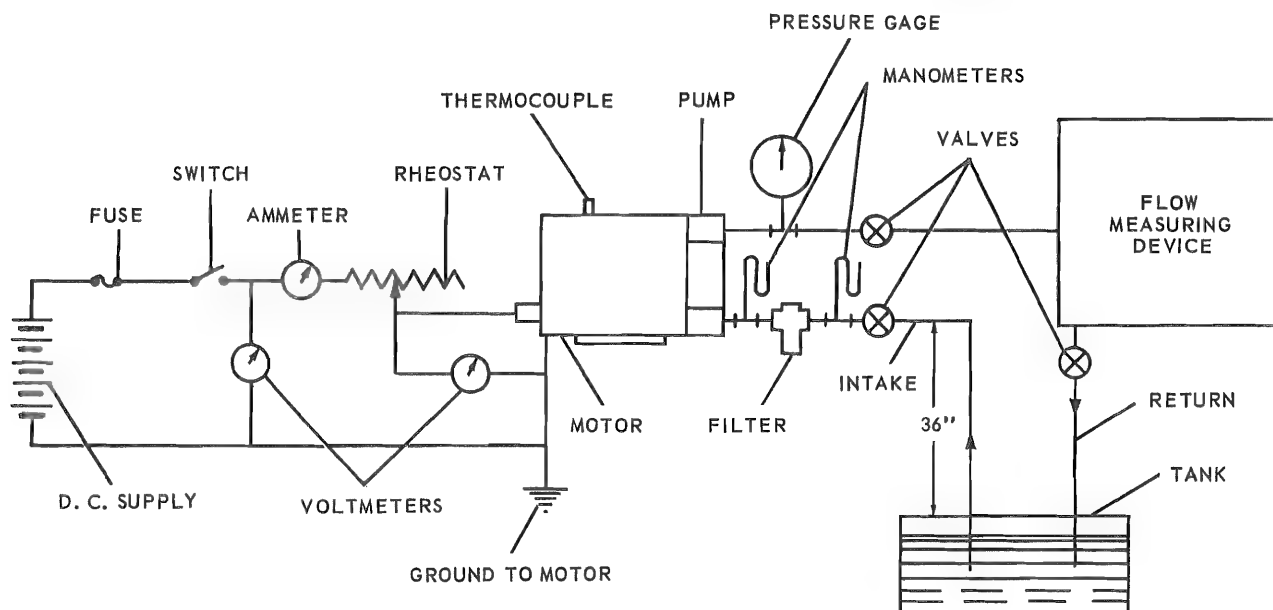

Figure 10-21. Test Setup
- a. See figure 10-21 for diagram of test equipment.